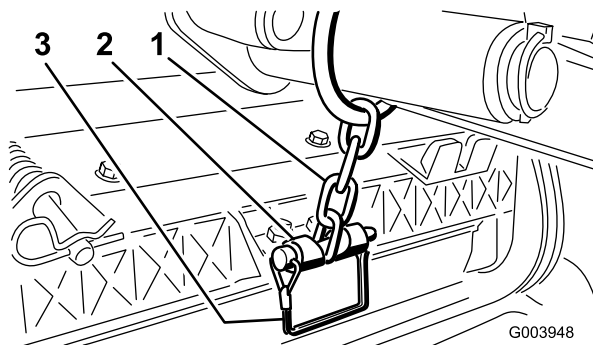

**Figure 11**
- A. Remove the lynch pin and washer securing the lift arm pivot shaft to the lift arm and slide the lift arm pivot shaft out of the lift arm (Figure 11).
- C. Insert the lift arm shaft into the lift arm and secure it with the washer and lynch pin (Figure 11).